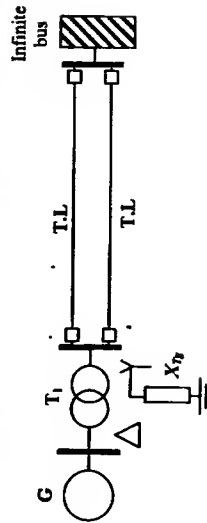

Fig. 5
5. Consider the system shown in Figure 5. Using the equal area criterion, discuss whether the transformer neutral reactance X_{T_2} improves or degrades the system transient stability.